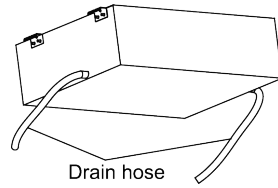
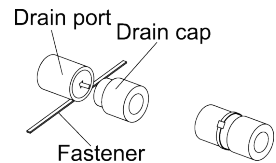

Fig. 4.23
Fig. 4.25
- (5). Use a suitable drain hose, and see Table 3.3 for its size.
- (6). There is a drain port on both the left and right sides. Select the drain port to match the local conditions (Fig. 4.23).
- (7). When the unit is shipped from the factory, the drain port is defaulted to be the one on the left side (electric box side), the port on right side has been plugged.
- (8). When using the drain port on the right side of the unit, reinstall the drain cap to the left side drain port (Fig. 4.25).